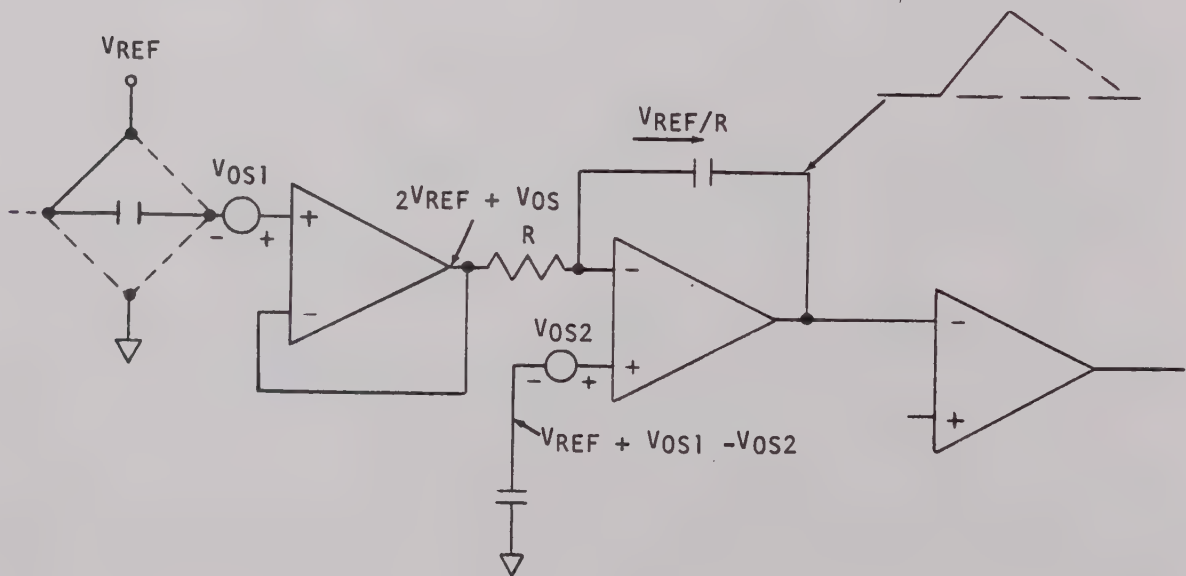

FIGURE 5-3. A/D Converter Function (Sheet 2 of 2)
a. Auto-Zero. The auto-zero period (A, Figure 5-3, Sheet 1) is 100 milliseconds in length, which corresponds to 10,000 clock pulses. During this period, the reference voltage (V_{REF}) is stored on capacitor C116. Capacitor C115 stores $V_{REF} + V_{OS1} - V_{OS2}$.
b. Signal -Integrate. The signal-integrate period (B, Figure 5-3, Sheet 1) is also 100 milliseconds in length. The A/D input is buffered and integrated by U105. Positive signals generate a negative-going ramp at the integrator output (Pin 14), while negative signals produce a positive-going ramp. The level of the integrated signal at the end of the signal-integrate period is proportional to the average of the applied signal during this period. Since signal integration continues for 100 milliseconds, the A/D converter exhibits high normal mode rejection for ac signals in multiples of 10 Hz, particularly the 50 and 60 Hz line frequencies.
c. Reference-Integrate. The reference-integrate period for a full scale input (C or D, Figure 5-3, Sheet 2) is 200 milliseconds, or 20,000 counts in length. During this period, the integrator is returned to baseline level by applying a reference voltage of a polarity opposite to that of the signal. A positive-going ramp is obtained by grounding the buffer input, while a negative-going ramp is produced by the integration of $2 \times V_{REF}$ (that is, $V_{REF} +$ the voltage stored on C116). The time, or number of clock pulses, required for discharge is proportional to the signal input. Digital output is from latches within U106 which store the number of clock pulses required for the integrator to return to baseline level. The maximum count during this period is 20,000, which corresponds to a discharge period of 200 milliseconds, or full scale input. For an input of less than full scale, the A/D automatically reverts to auto-zero for that period of the 200 milliseconds remaining after return to baseline level. V_{REF} is provided by a divider across a temperature-compensated zener diode. Operational amplifier U104 provides the zener with a self-regulating bias.